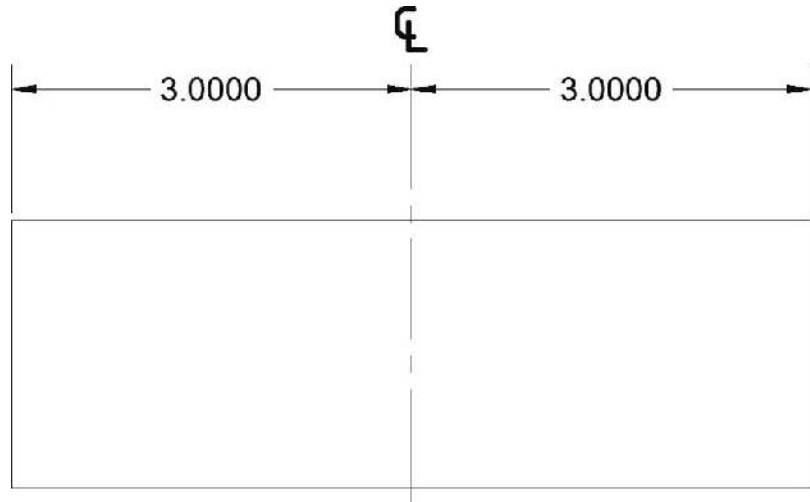

FIGURE 12.62: The centerline symbol and a centerline used as part of two dimensions
10. Move the symbol up slightly to create a space between it and the centerline (see Figure 12.62).